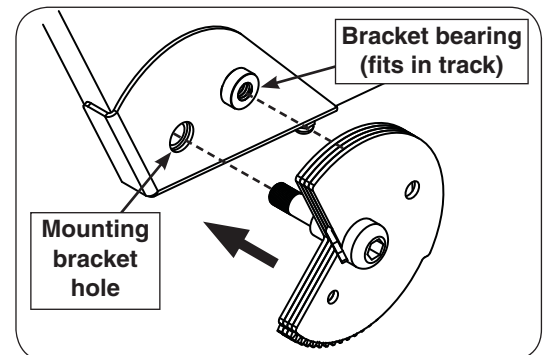

Fig. 3-4 Install lid gear assembly
- Install the lid gear assembly to the mounting bracket, ensuring that the bracket bearing fits inside the bracket bearing track, and the gear bearing slides into the mounting bracket hole. The shoulder bolt must slide through the grill lid spacer and thread into the shoulder nut. See Fig. 3-4 and 3-5. Tighten securely using the $\frac{1}{4}$ " hex key.